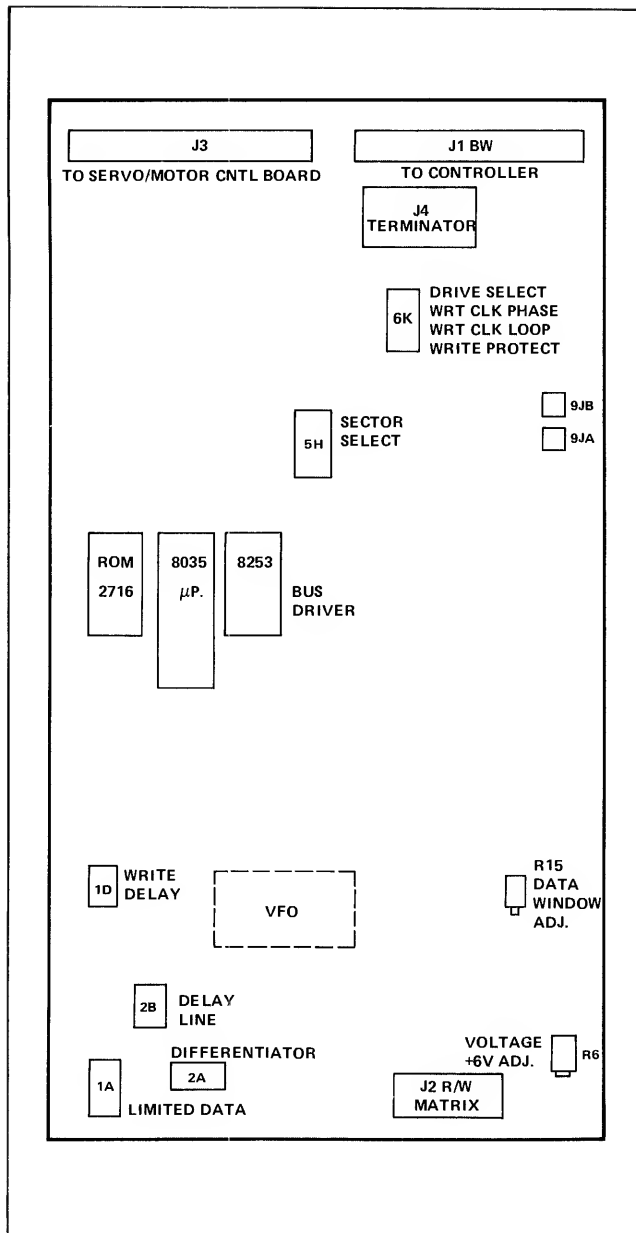

Figure 2-1. Read/Write Digital PCB
2.6 Switch Settings. The drive address, write protect parameters and sector size are all switch selectable. The switches are located on the read/write digital PCB. Referring to Figure 2-1 and to T 2.4-1, set the switches according to the desired operating conditions.